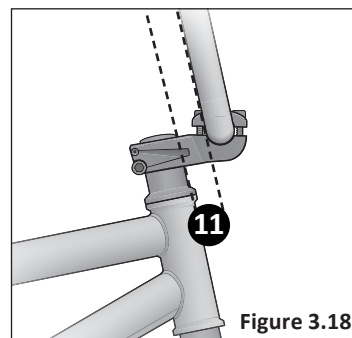

Figure 3.18
- 11 Look from the side of the bike and check that the handlebar is parallel with the fork. **Figure 3.18**